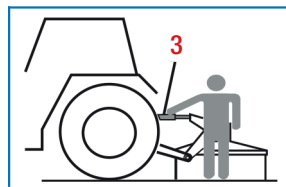

Figure 12
- Fasten the tractor bottom arm, so you can prevent the vibrations on the machine while it is working (3) (Figure 12).